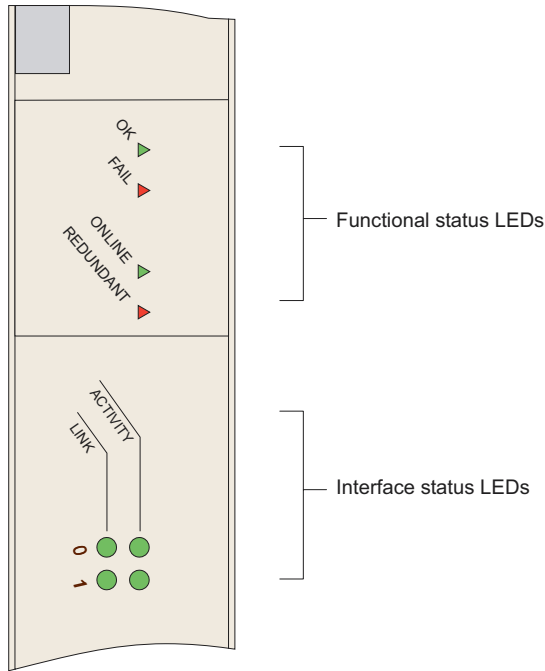

Figure 10-2 FE2 module LEDs
- Ethernet line module (Figure 10-2)